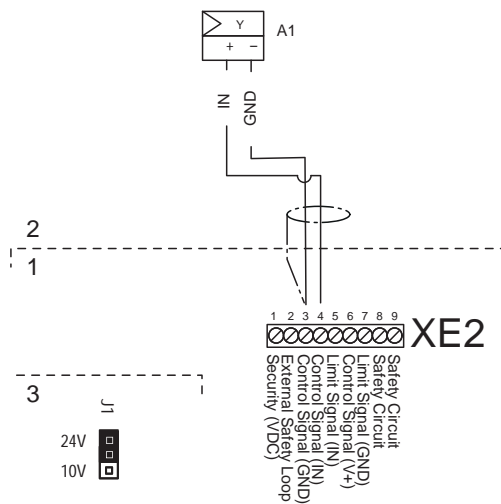

Figure 15 - Modulating Demand or Humidity Signal Connection
4. Connect the wires in to terminals 3 (GND) and 4 (IN) of the control terminal block, XE2. Refer to Figure 15 above. If a shielded signal cable is used, connect the shielding to terminal "3" (GND).